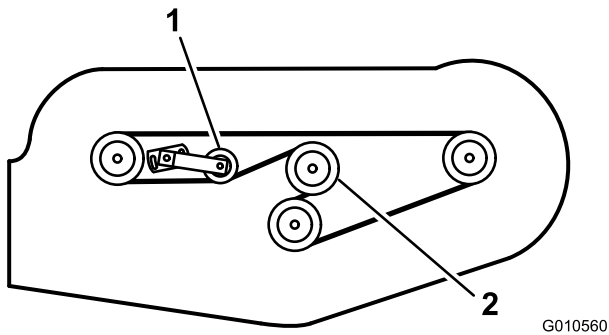

Figure 29
6. Install the new belt around the gear box pulley, spindle pulleys, stationary idler pulley, and adjustable idler pulley (Figure 29).